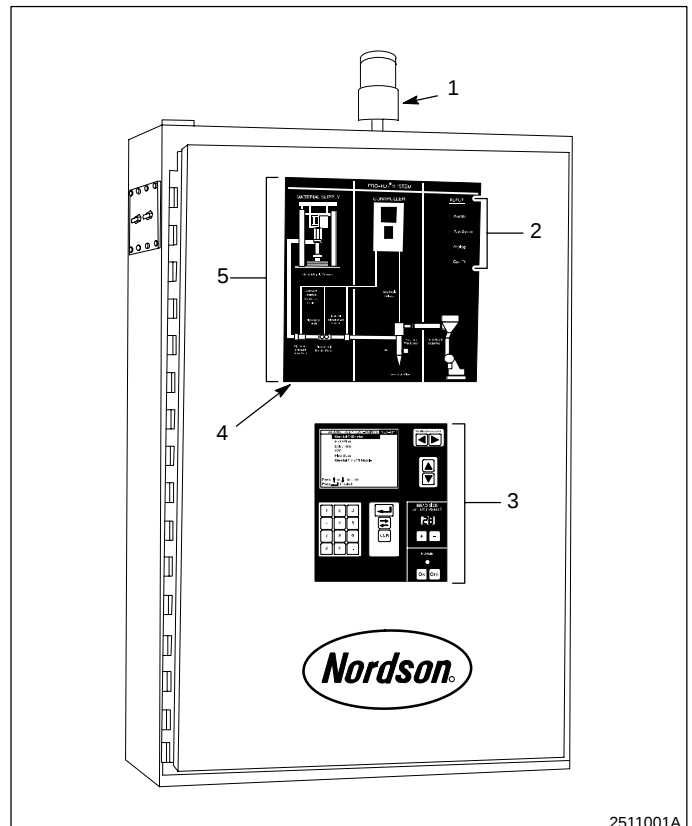

Fig. 1 Pro-Flo Controller
See Figure 1. The Pro-Flo Controller automates the control of Pro-Flo guns. Use the operator interface (3) to select and define production parameters. The diagnostic panel (5) displays the system status. Use the LAMP TEST key (4) to test the lights on the panel. When a fault is detected, the alarm tower (1) lights and the type of fault is indicated on the diagnostic panel. The robot signal indicators (2) on the diagnostic panel light when signals are received from the robot controller. Under normal operating conditions, these lights flash on and off in a specific sequence.